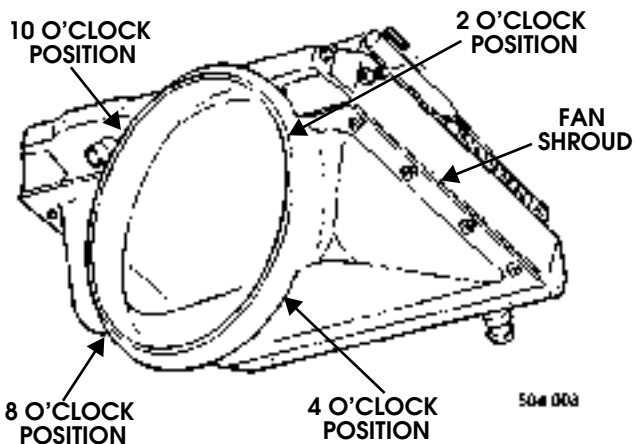

Figure 4-6: Fan Shroud Clearance Check Points
6. Align fan shroud by sliding the radiator/shroud assembly to maintain $1\frac{1}{2} \pm \frac{1}{8}$ in. (38.1 ± 3 mm) from edge of shroud ring and rear edge of fan. Measure at the 2, 4, 8, and 10 o'clock positions. The distance between the top of the fan blade and fan shroud must not be less than $\frac{1}{4}$ in. (6 mm) at any position (Figure 4-6).